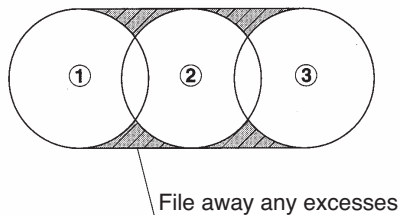

Fig. 27
Drill oblong hole in the order of ①, ②, ③. For the steps ② and ③, take care so that the cutter may not be fed into the workpiece with too much force. Spacing between each step of drilling operations should be so arranged that the Pilot Pin will always hit the material yet to be machined. (Fig.27)